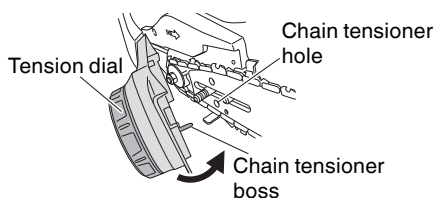

Fig. 8
- (2) Adjust the tension dial of the side cover so that the chain tensioner boss is inserted into the guide bar chain tensioner hole, and attach the side cover. (Fig. 8)